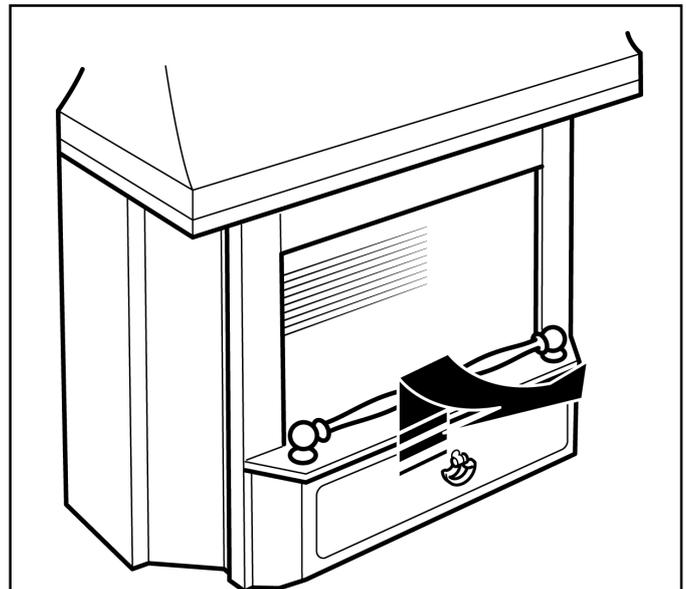

Figure 4. Window surround removal
1. Detach the window surround by sliding it upwards and then swinging the bottom forwards. Lift and store carefully. See figure 4.